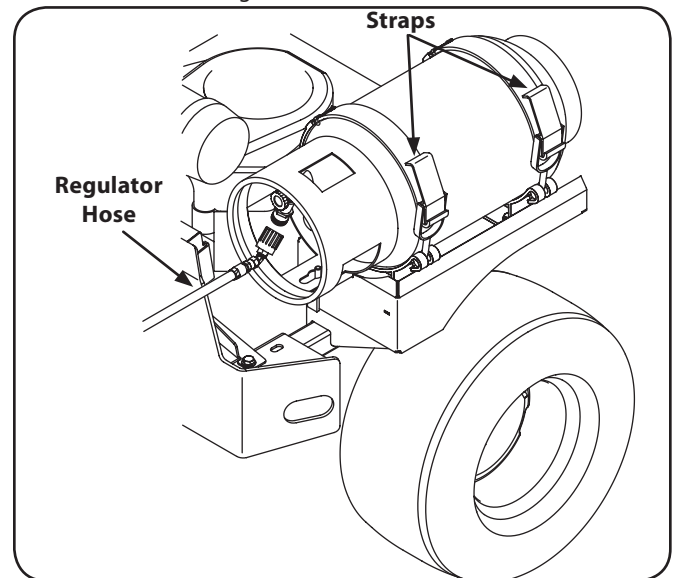

Figure 6-2
3. Remove the regulator hose from the LPG tank by twisting it clockwise. See Fig. 6-2.
4. Release the two (2) straps that secure the cylinder to the machine. See Fig. 6-2.